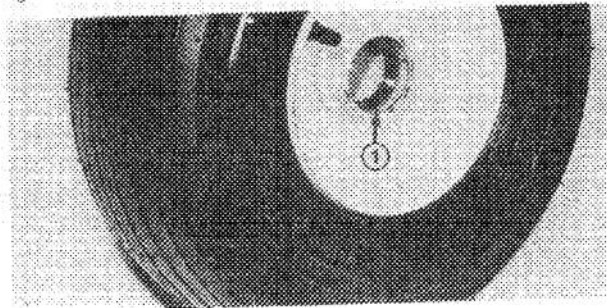

Figure 52
4. If bearing cups were removed from the wheel hub, press them into the hub until they seat against the shoulder (Fig. 52).